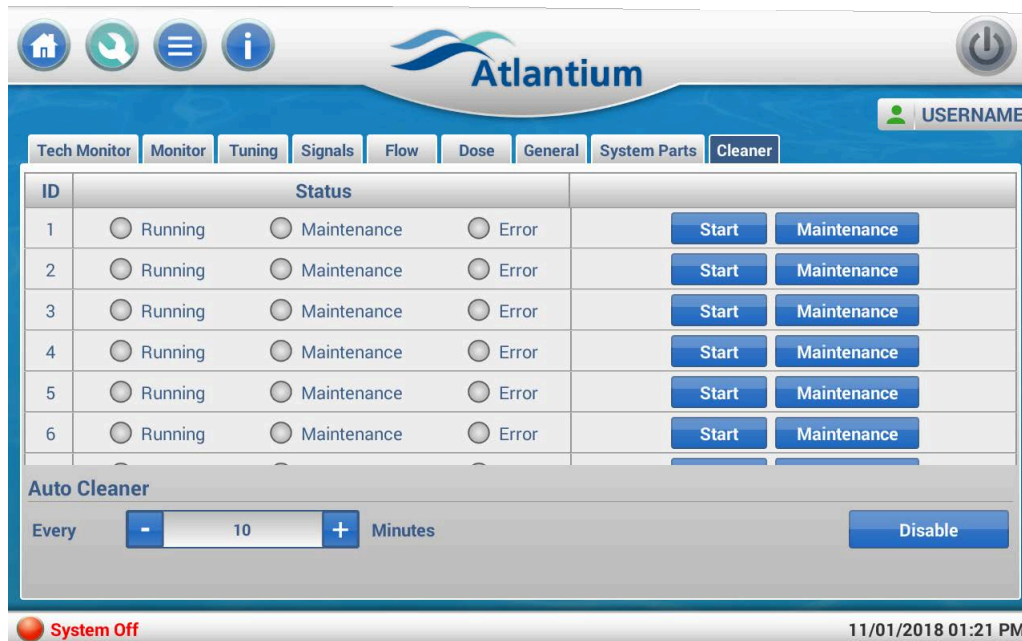

Figure 10-7: Cleaner Screen - Maintenance Mode
- Step 33.** For the lamp that is replaced, on the connection box, turn the lamp switch to the **On** position. Check that the lamp ignites properly. See **Figure 10.7**
- Step 35.** Return the lamp's breather caps (G).